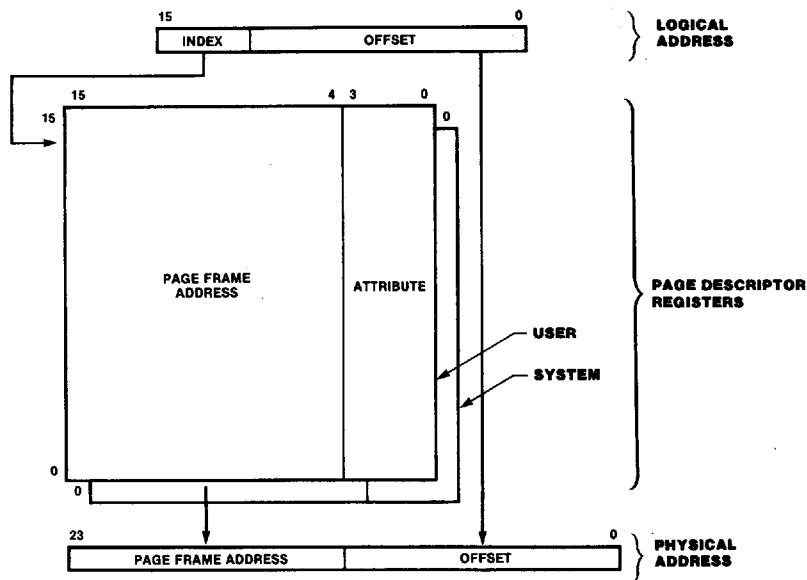

Figure 19. Address Translation
**Address Translation:** Address translation is illustrated in Figure 19. While the Program/Data Space Separation bit is cleared to 0, the 16-bit logical address is divided into two fields, a 4-bit index field used to select one of 16 Page Descriptor registers and a 12-bit offset field that forms the lower 12 bits of the physical address. The physical address is composed of the 12-bit page frame address (bits 4-15) supplied by the selected Page Descriptor register and the 12-bit offset supplied by the logical address.